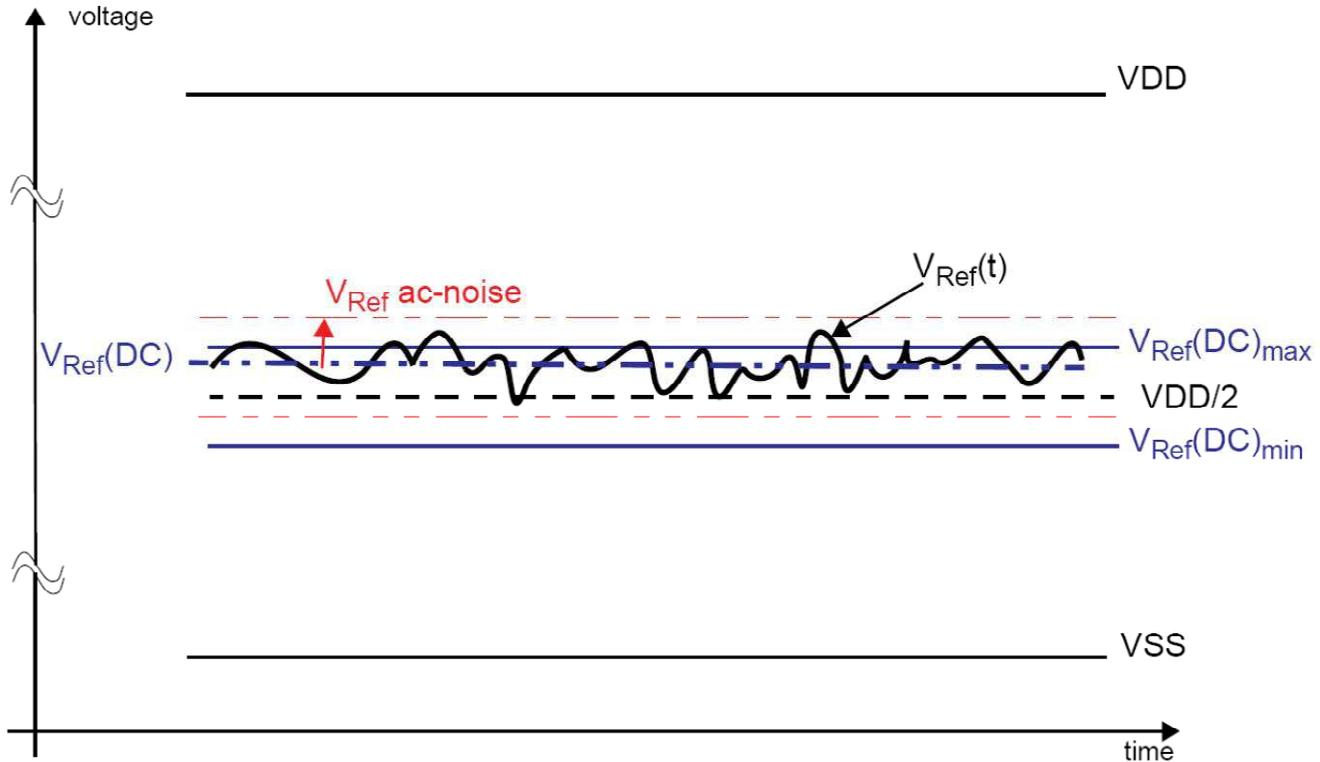

Figure 7.1 — Illustration of VRef(DC) tolerance and VRef ac-noise limits
The dc-tolerance limits and ac-noise limits for the reference voltages VRefCA and VRefDQ are illustrated in Figure 7.1. It shows a valid reference voltage VRef(t) as a function of time. (VRef stands for VRefCA and VRefDQ likewise). VDD stands for VDDCA for VRefCA and VDDQ for VRefDQ. VRef(DC) is the linear average of VRef(t) over a very long period of time (e.g. 1 sec) and is specified as a fraction of VDDQ or VDD2 also over a very long period of time (e.g. 1 sec). This average has to meet the min/max requirements in Table 24. Furthermore VRef(t) may temporarily deviate from VRef(DC) by no more than +/- 1% VDD. Vref(t) cannot track noise on VDDQ or VDDCA if this would send Vref outside these specifications
The voltage levels for setup and hold time measurements VIH(AC), VIH(DC), VIL(AC) and VIL(DC) are dependent on VRef. “VRef “ shall be understood as VRef(DC), as defined in Figure 7.1.